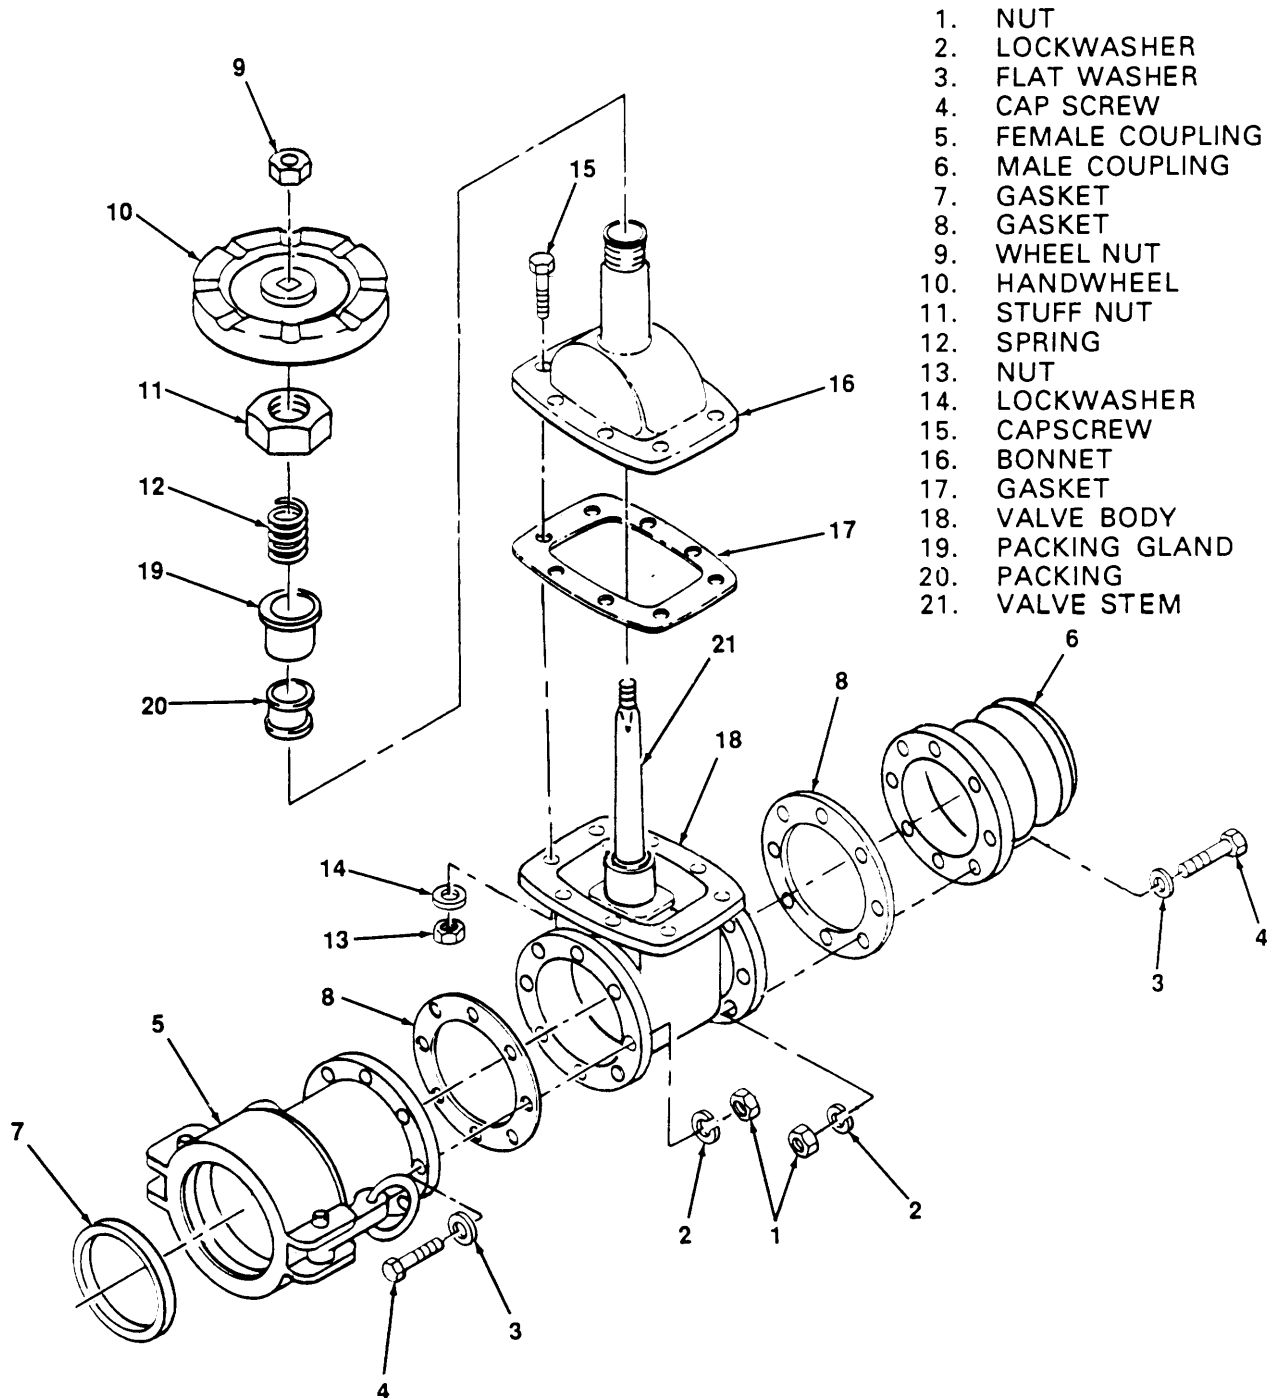

Figure 4-2. Gate Valve Repair.
- (1) *Replacement of gaskets* (figure 4-2). Perform the following steps to replace gaskets:
- (a) Remove nuts (1), lockwashers (2), flat washers (3), capscrews (4) and flanged couplings (5 and 6). Remove gasket (7) from female coupling (5) and discard.
- (b) Remove cork gaskets (8) from valve body and discard. Remove old sealing compound from flanges on valve body and couplings.
- (d) Attach couplings (5 and 6) to valve using capscrews (4), flat washers (3), lockwashers (2) and nuts (1). Install new gasket (7) in female coupling.
- (2) *Replacement of packing* (figure 4-2). Perform the following steps to replace the packing.
- (a) Remove the wheel nut (9) and handwheel (10).
- (b) Remove stuff nut (11) and spring (12).
- (c) Remove nuts (13), lockwashers (14), capscrews (15) and the bonnet (16) from body and valve stem (21).
- (d) Remove gasket (17) from the valve body (18). Discard gasket. Remove old sealing compound from bonnet and valve body.
- (e) Remove the packing gland (19) and packing (20) from the bonnet (16). Discard packing.
- (f) Install new gasket (17) using sealing compound (MIL-S-7916).
- (g) Attach the bonnet (16) over valve stem (21) to the valve body (18) with capscrews (15), lockwashers (14) and nuts (13).
- (h) install new packing (20), packing gland (19) and spring (12) in bonnet (16) and secure with stuff nut (11).
- (i) Install handwheel (10) and wheel nut (9).